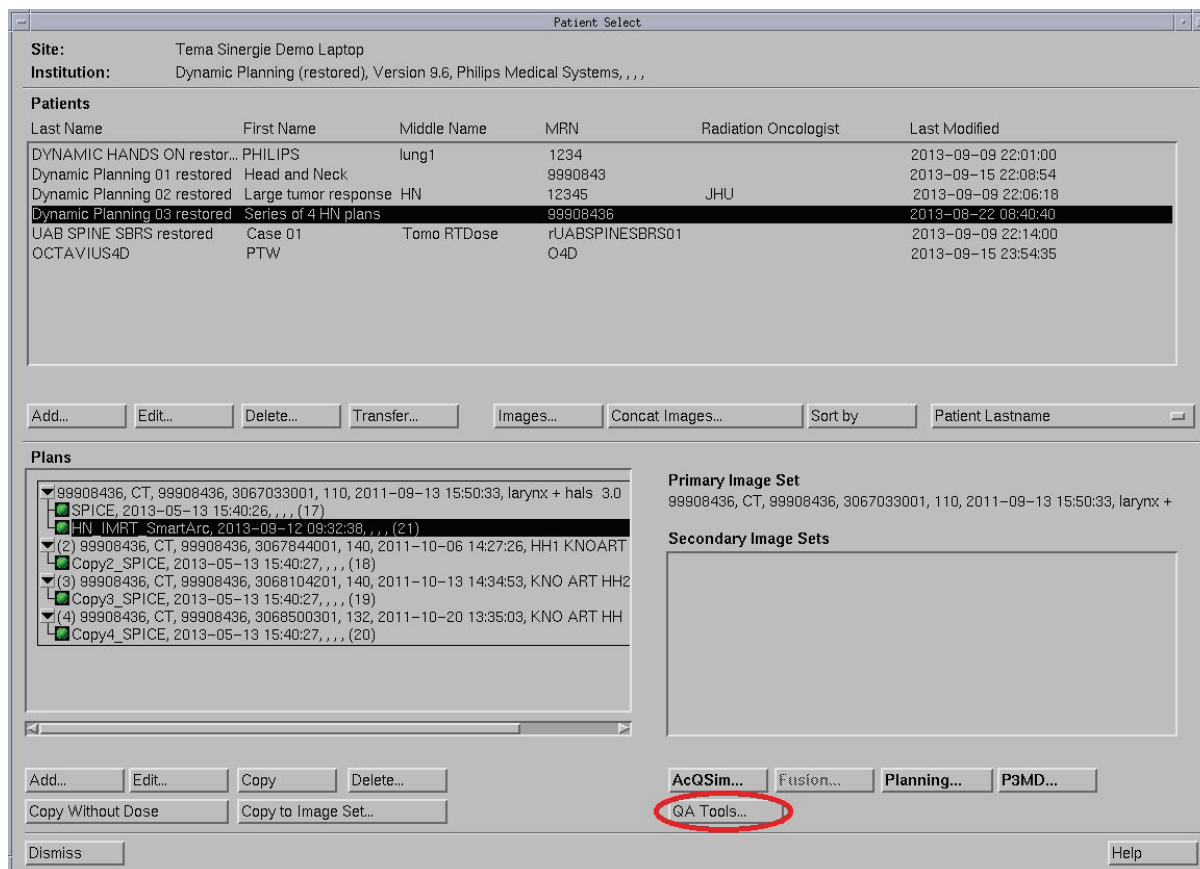

Fig. 4.2 Pinnacle³ QA Tools
2. Click the **QA Tools** button (Figure 4.2). The **QA Tools** window appears.